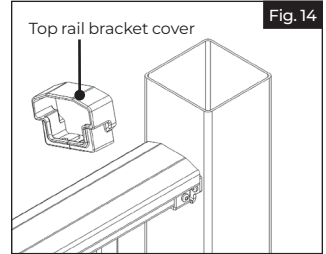

Fig. 14
- c. Open the top rail bracket cover to allow it to wrap around the top rail (Fig 14). While open, make sure the "tab" fits behind the rail and against the post.